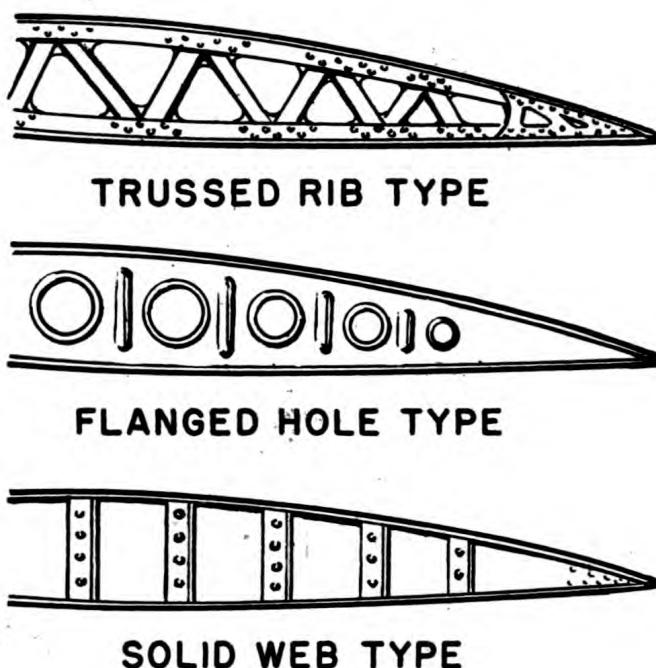

Figure 146.—Wing ribs.
Ribs are most generally of three types. (1) The trussed rib type. (2) The type with bent-up sheet flanges and with flange holes in the web. (3) The type with solid web ribs with extruded angle or channel stiffening flanges. Figure 146 illustrates these three types of ribs for your convenience.